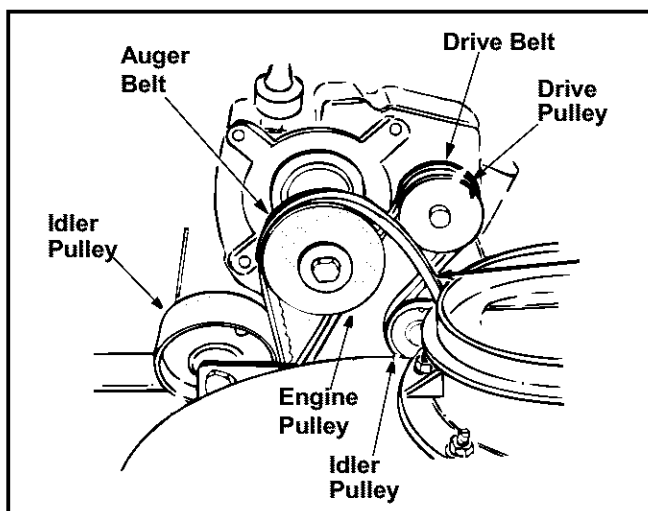

Figure 26
- Roll auger belt off the engine pulley. See Figure 26.
- Pull idler pulley up, and lift belt off engine pulley and friction wheel disc. See Figure 26.